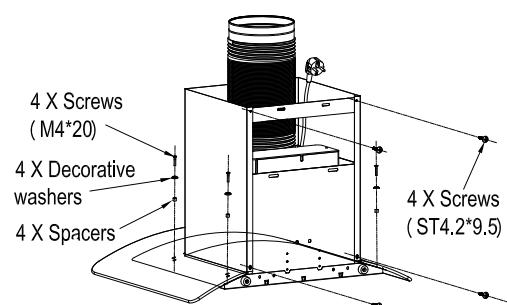

Fig.5
- Fix the exhaust pipe and chimney on the main body, connect chimney installation plate and chimney. Intall the glass according to the drawings. See Fig.5.